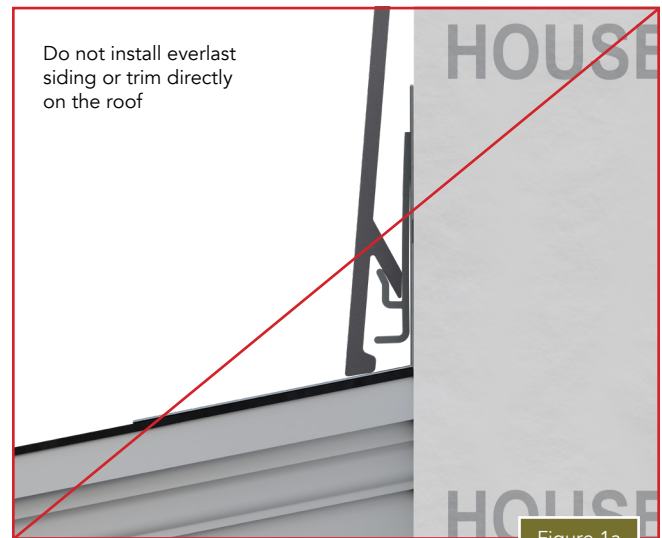

Figure 1a
- When installing siding and trim along rooflines, always provide 1" minimum space between the roof and first course of siding (Figure 1a/b).